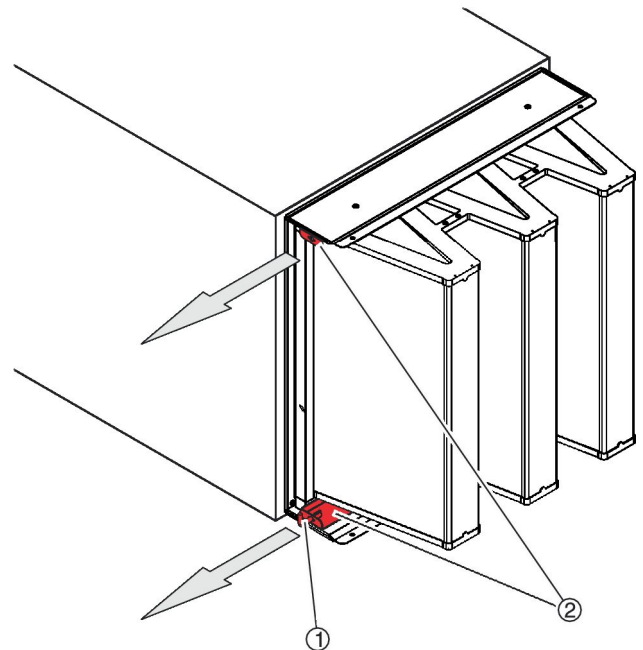

Fig. 58: Releasing the clamping rails
4. ▶ Use the special key (Fig. 58 /1) to pull out the clamping rails (Fig. 58 /2) as far as they will go.